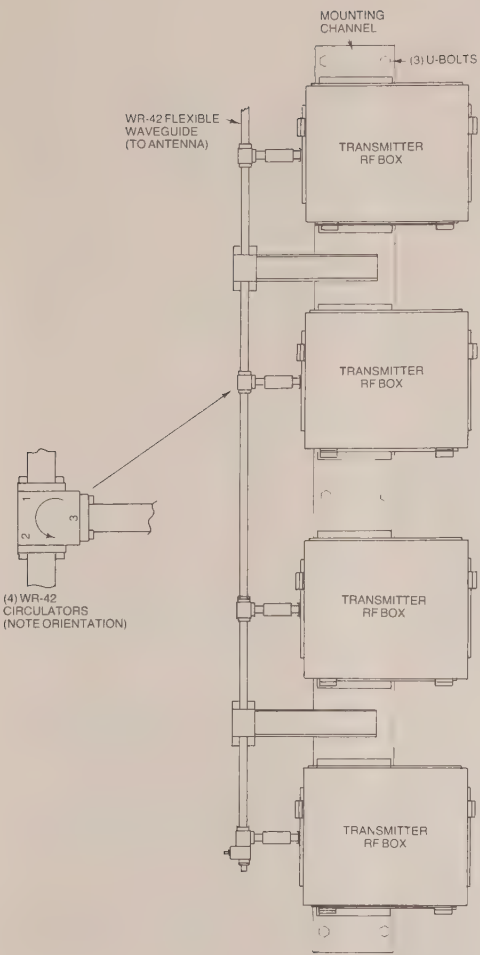

Figure 3-26. Stacking/Combiner Kit – 4 TX Channels
**MOUNTING OF MULTIPLEX RF ASSEMBLIES.** Up to four duplex systems can be multiplexed onto a single antenna using Stacking/Combiner Kits as shown in Figures 3-26 and 3-27. The Stacking/Combiner Kits provide mounting and waveguide interconnection facilities for up to four weather-resistant RF Units on a common mounting channel. Three U-bolts are provided for mounting on a vertical mast (4 to 4.5" O.D.). A 3 foot length of flexible WR-42 waveguide is provided for connection to the antenna.